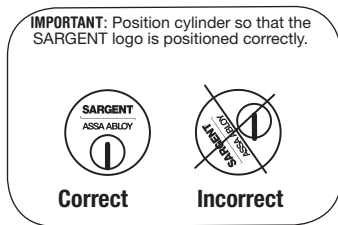

Fig. 6A
4. Verify the orientation of the cylinder has the Sargent logo as depicted in Fig. 6A.